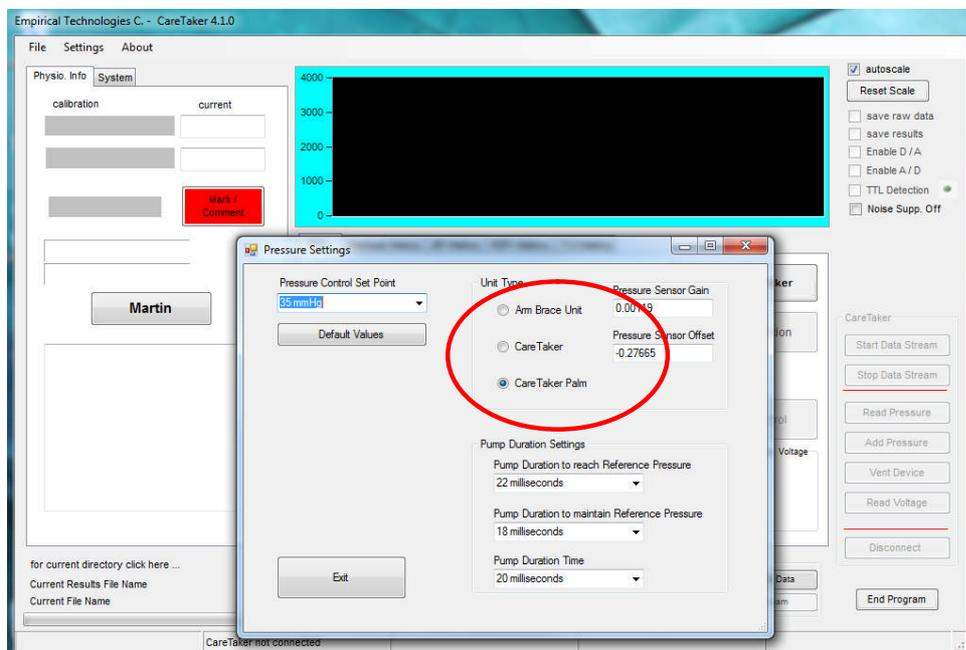

Figure 20 Pressure Control Settings menu
- Prior to the first time the calibration routine is used please verify that the coupling pressure set point (Pressure Set Point), which is the coupling pressure the CareTaker unit will establish in the finger cuff subsequent to the calibration, is set to 40 mmHg. Please refer to section 15.3, Figure 20.
Once the OK button is clicked, the device's valve will open, followed by a sequence of pump bursts to get the coupling pressure of the device to its preset value, usually around 40 mmHg (this is adjustable under Settings – Pressure Settings – Pressure Set Point (lowest drop down menu, see Figure 20)).
Click on “Settings” in the top menu, then click “Pressure Settings”, whereupon the sub-screen shown in **Figure 20** will open. Choose an appropriate pressure from the top drop-down menu labeled “Maximum Sweep Pressure”. Click OK to exit the panel.